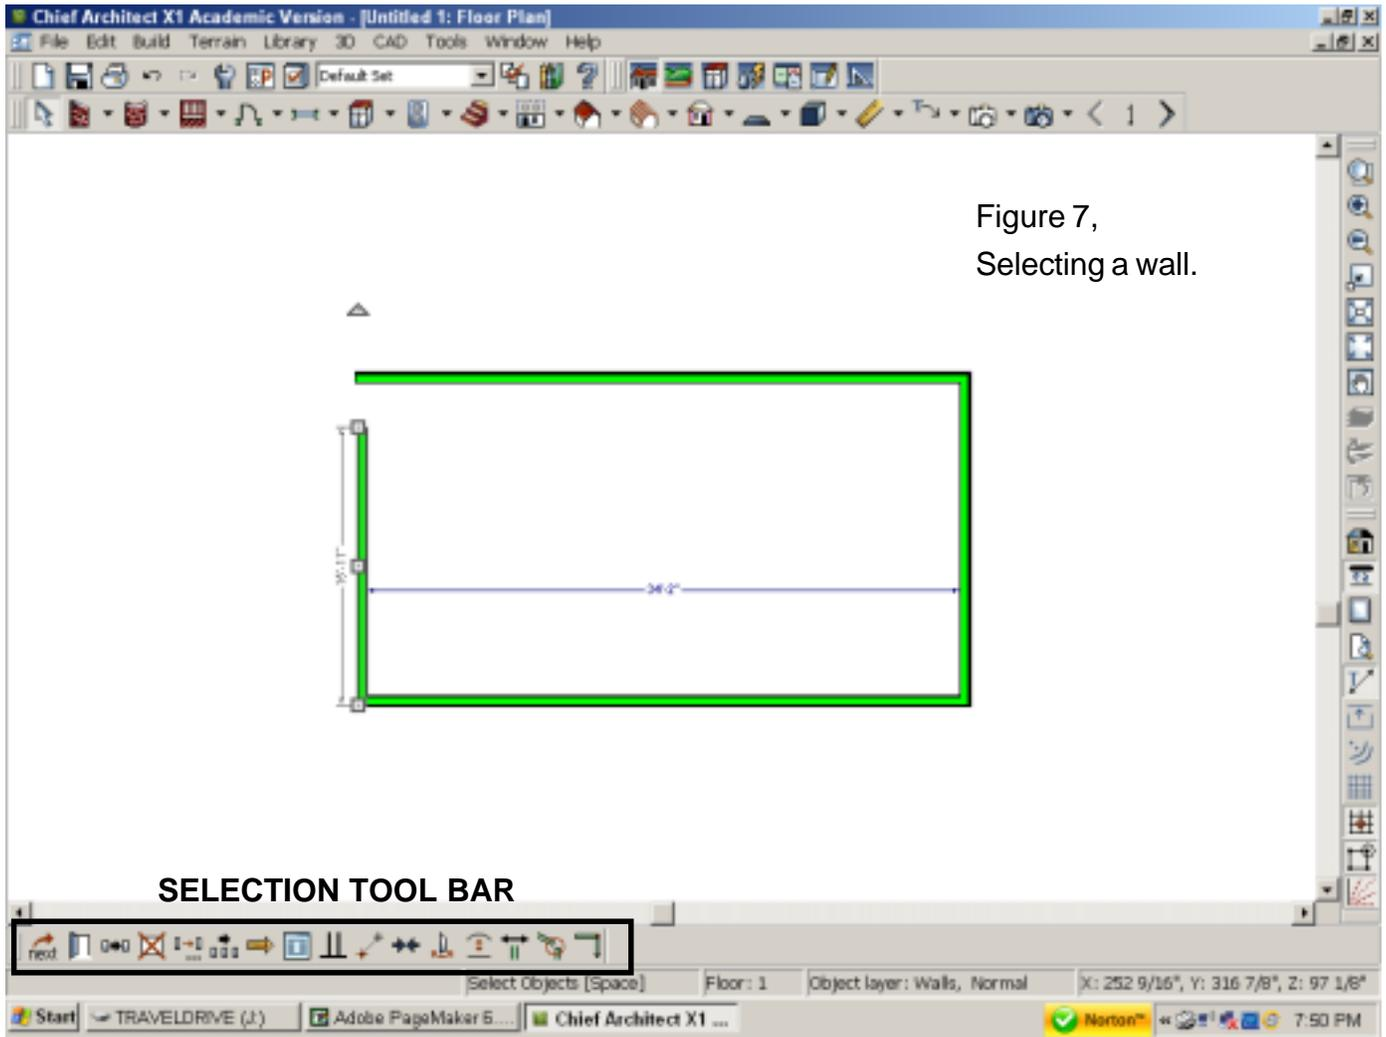

Figure 7,
9. Position the cursor near the right end of the first wall and create a new vertical wall with the end point directly below the starting point. (See Figure 7.)
Figure 7 shows one version of the four walls just constructed. In this illustration, the **Select Objects** tool has been used to select the left vertical wall.
These tools operate on the selected item. In Figure 7, the left vertical wall and top horizontal wall do not quite meet. This can easily be fixed by selecting one of the walls, and then clicking on the **Connect Walls** tool found in the **SELECTION TOOL BAR**.